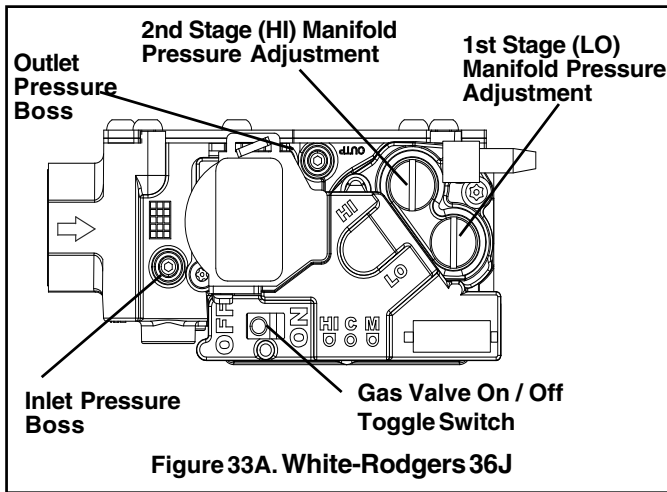
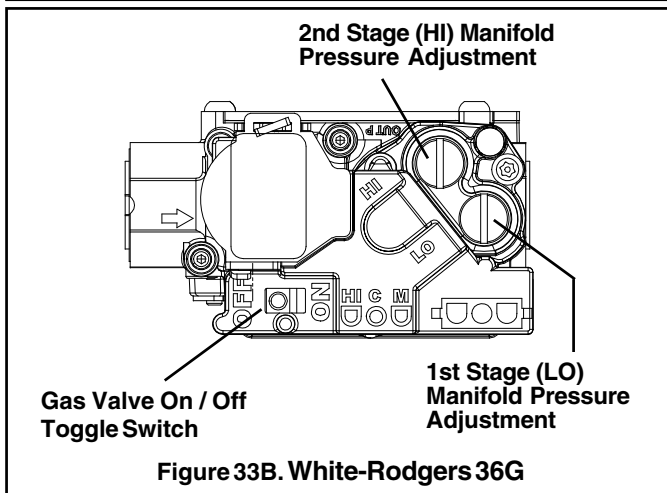

Figure 33A. White-Rodgers 36J
Figure 33B. White-Rodgers 36G
2. Attach a manifold pressure gauge with flexible tubing to the outlet pressure boss marked "OUT P" on White-Rodgers gas valve model 36G or 36J. See Figure 33A for White-Rodgers gas valve model 36J. See Figure 33B for White-Rodgers gas valve model 36G.
5. Adjust 1st stage gas heat by removing the low (LO) adjustment regulator cover screw.
Turn the main Gas Valve toggle switch (See Figures 33A & 33B) within the unit to the "OFF" position. Turn the external gas valve to "ON". Purge the air from the gas lines. After purging, check all gas connections for leaks with a soapy solution -- **DO NOT CHECK WITH AN OPEN FLAME.** Allow 5 minutes for any gas that might have escaped to dissipate.